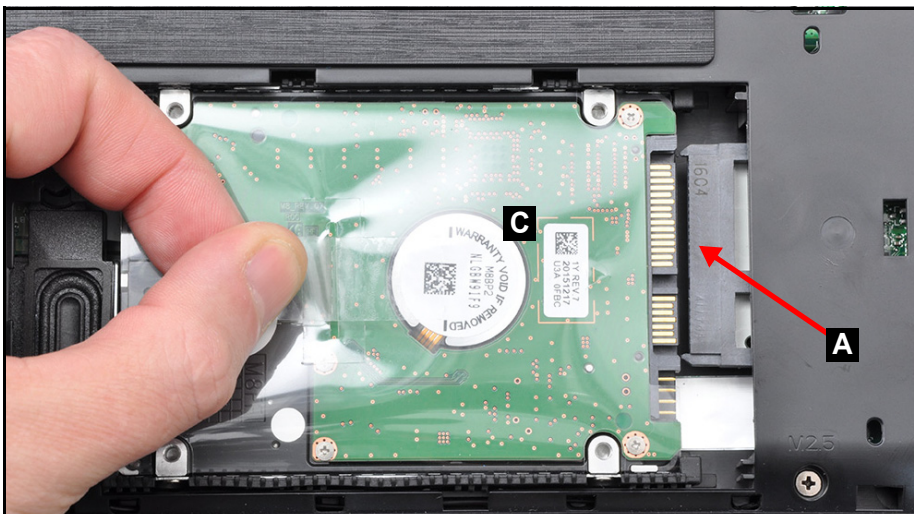

Figure 3-117. Replacing the HDD Module
3. Push the HDD module (C) toward the mainboard to connect the HDD module (C) to the mainboard connector (A) as shown in Figure 3-117.